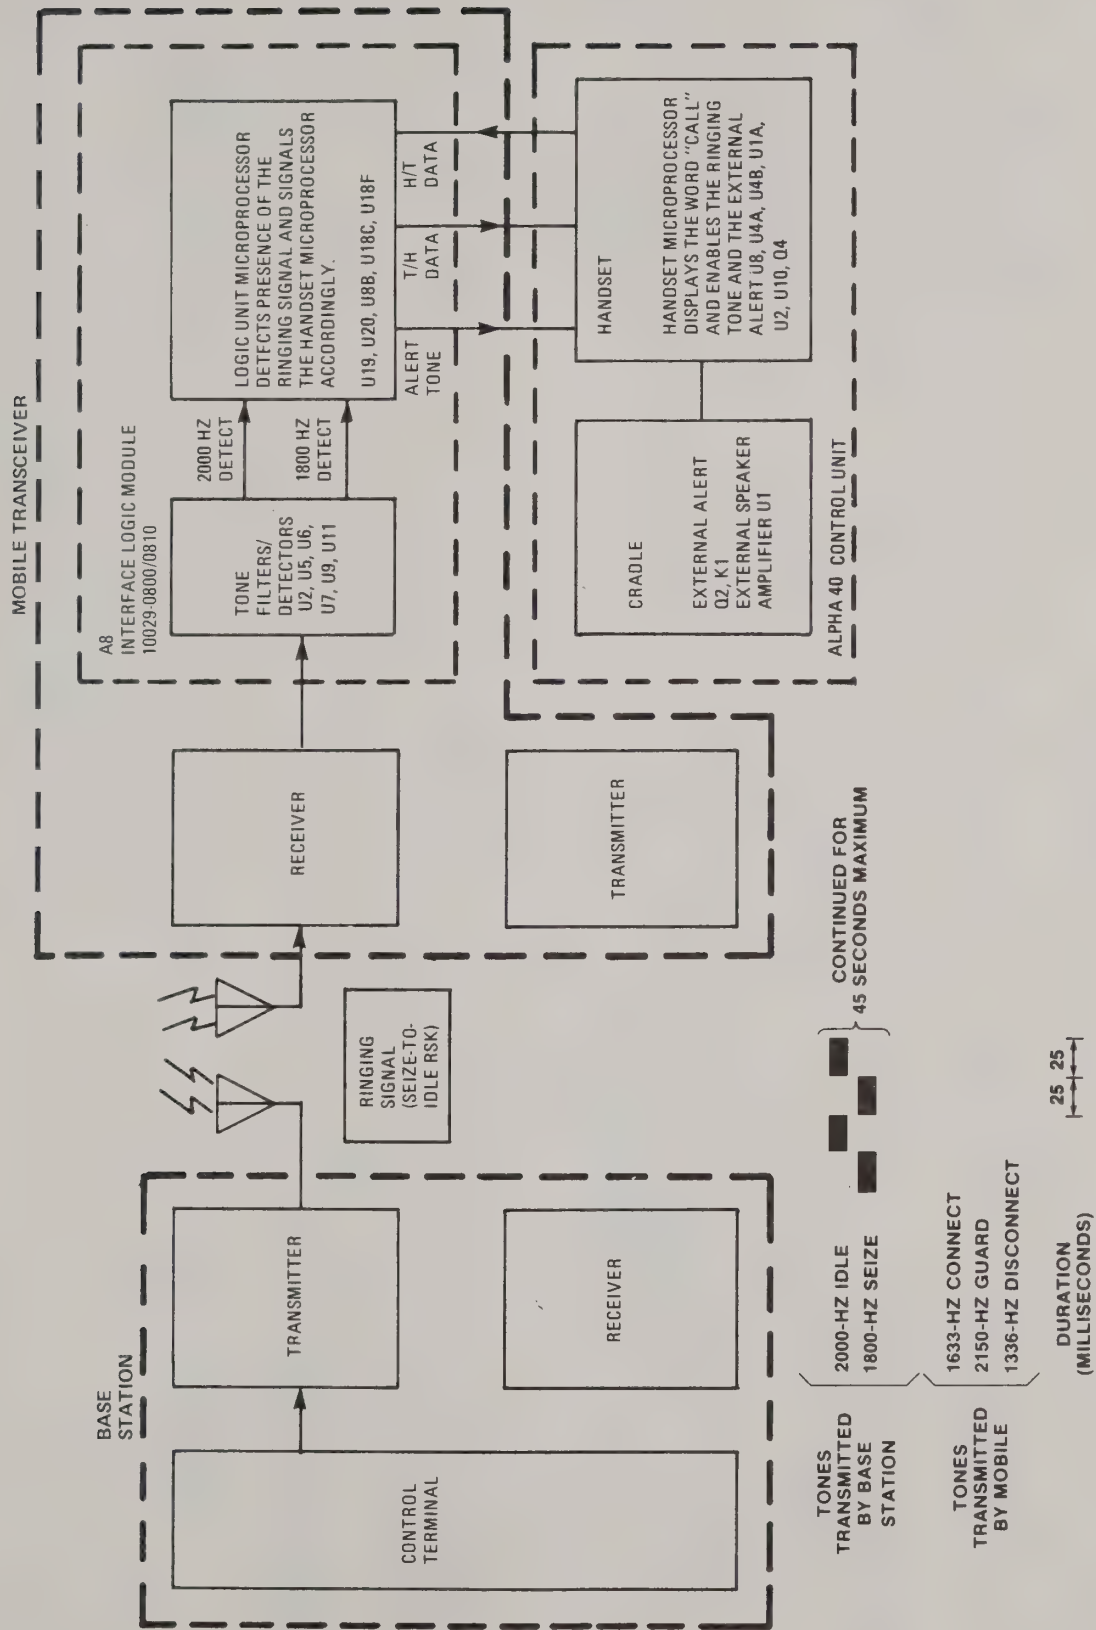

Figure 7. Functional Block Diagram, IMTS Mode, Landline-to-Mobile Call Sequence, Ringing Signal
- (3) Ringing by Base Station. (Figure 7)